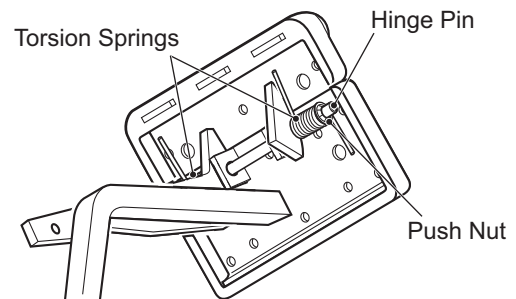

Figure 13 Parking Brake Pedal Hinge Inspection
8. **Inspect parking brake pedal hinge.** Check for broken springs, and correct retention of the hinge pin. Operate the parking brake pedal to confirm smooth operation of the hinge mechanism (Figure 13).